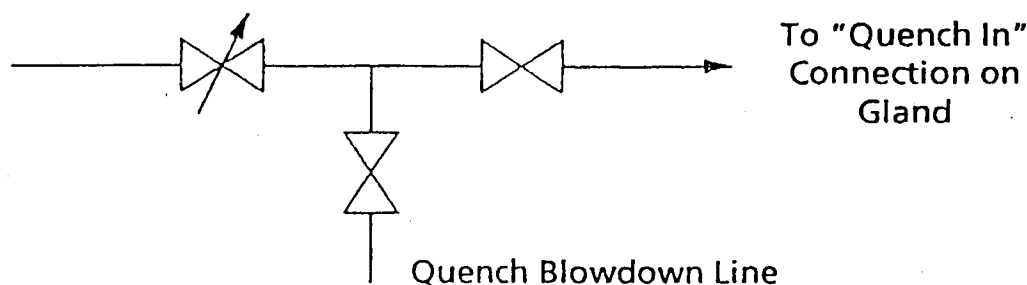

Figure 41
4. The needle valve will sometimes plug during operation. If this occurs, precautions must be taken to prevent the seal from being hit with a slug of cold water when unplugging the line. This can be accomplished by installing a block valve and blowdown on the line downstream of the needle valve (*Figure 41*).